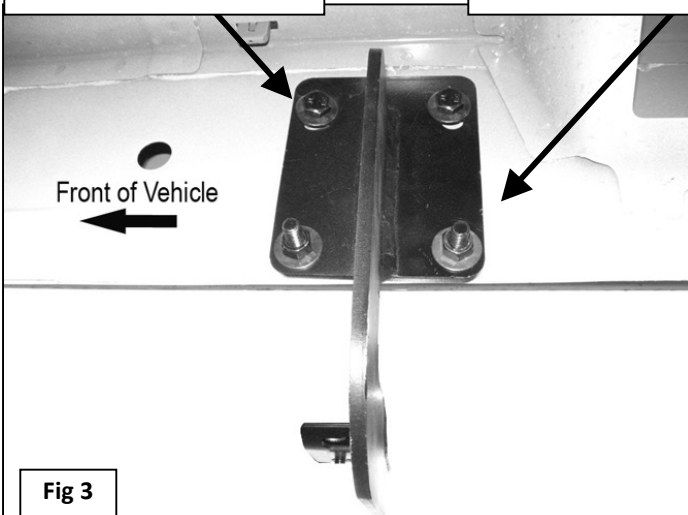

Fig 3
- Partially attach the passenger side Mounting Bracket to the previously installed Clip Nuts using the included (1 or 2) 8mm x 30mm Hex Bolts, (1 or 2) 8mm Lock Washers, and (1 or 2) 8mm Flat Washers, (Figure 3). **NOTE:** Cradles on the Mounting Brackets should face the front of the vehicle.
5. Attach the (2) bottom holes in the Mounting Bracket to the (2) holes in the pinch weld using the included (2) 8mm x 30mm Hex Bolts, (2) 8mm Lock Washers, (4) 8mm Flat Washers and (2) 8mm Hex Nuts, **(Figure 3)**. Do not tighten hardware at this time.